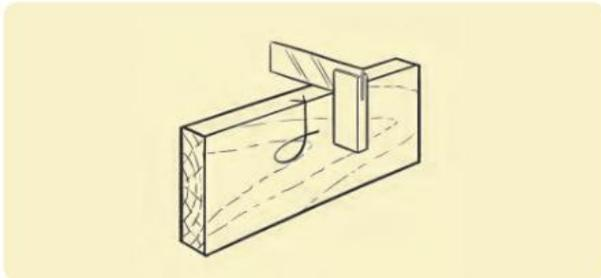

Figure 3.11 Testing the face edge for squareness with a try-square; note the face side mark
- Plane the face edge and test it for squareness with a try-square. Mark the face edge with the face edge mark as shown in Figure 3.11.